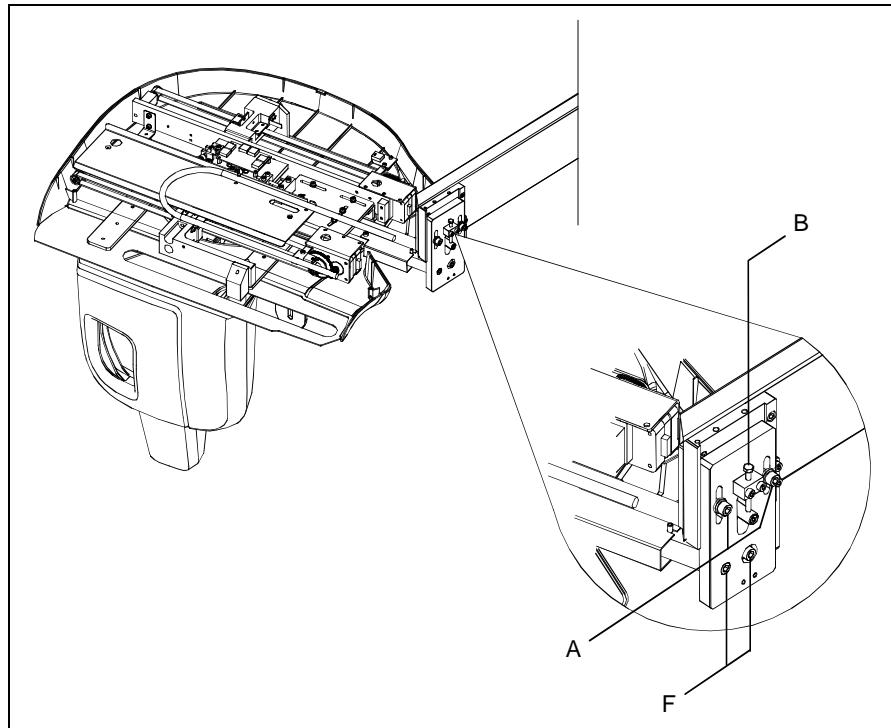
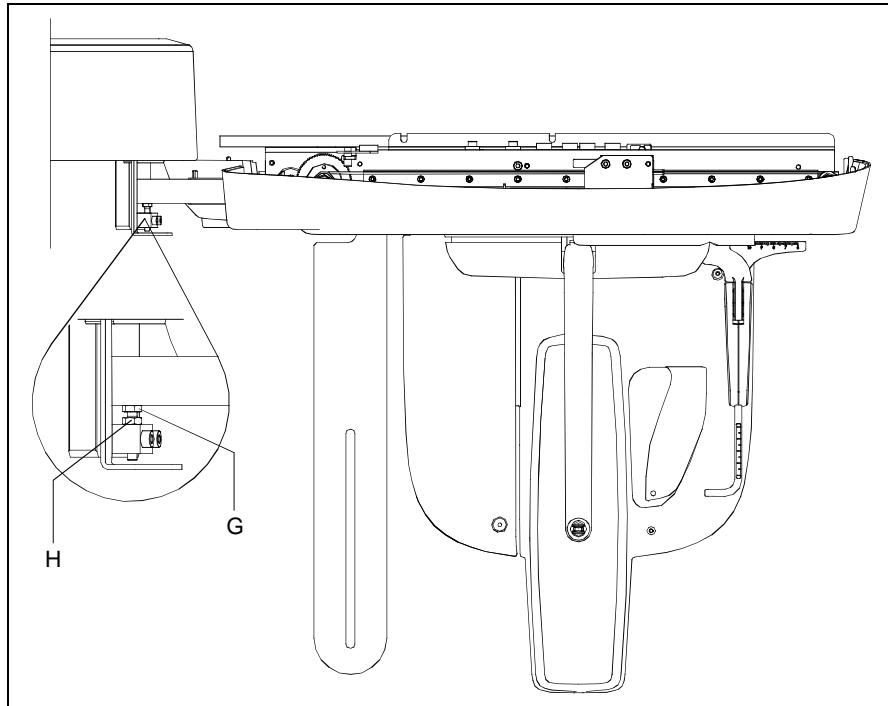

Figure 9-28
Figure 9-29
16. If it will be necessary to change the height of the CEPH arm, loose the two screws "A" (Figure 9-28), and acting on the screw "B" adjust the height of the Ceph group. Repeat the exposure until the vertical alignment is reached. Tighten the loosened screws "A".
18. To adjust the vertical alignment between the two rings, loose the two screws "F" (Figure 9-28) and adjust the position of the arm acting on screw "G" (Figure 9-29). Once the aligned position has been reached (test exposures are required), tighten bolt "H" (Figure 9-29) and tighten screws "F".